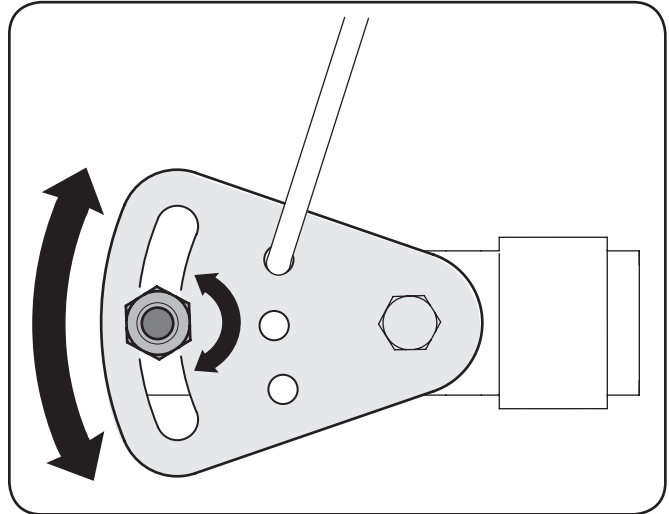

Figure 6-4
If the full range of speeds (forward and reverse) cannot be achieved, refer to the Figure 6-4 and adjust the shift cable as follows:
2. Loosen the hex nut on the shift cable index bracket. See Figure 6-4.